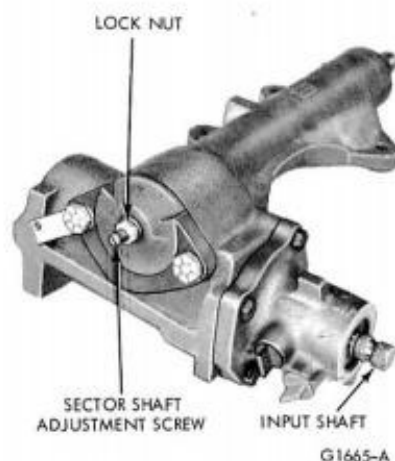

FIG. 24—Adjusting Mesh
17. Attach an in-lb torque wrench to the input shaft. Adjust the mesh load to specifications as shown in Fig. 24.